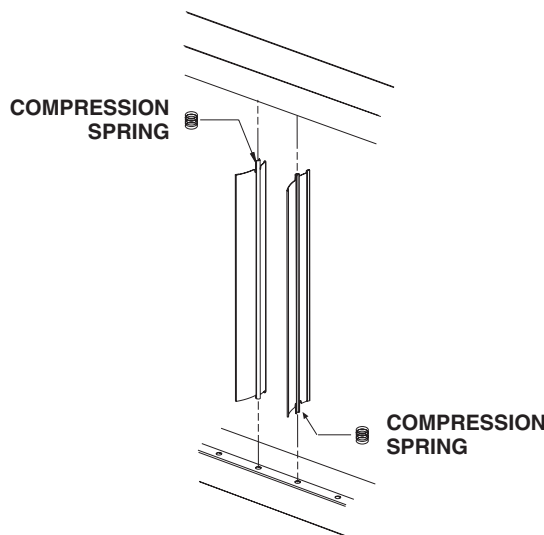

Figure 3. Louver Installation
- b. With wider louver blade facing in toward heat exchanger, push tab with compression spring into hole in top or bottom louver frame (see Figure 3)—spring compresses. Insert tab on other end of louver into opposite louver frame. For left airflow, compress spring into top louver frame. For right airflow, compress spring into bottom louver frame.